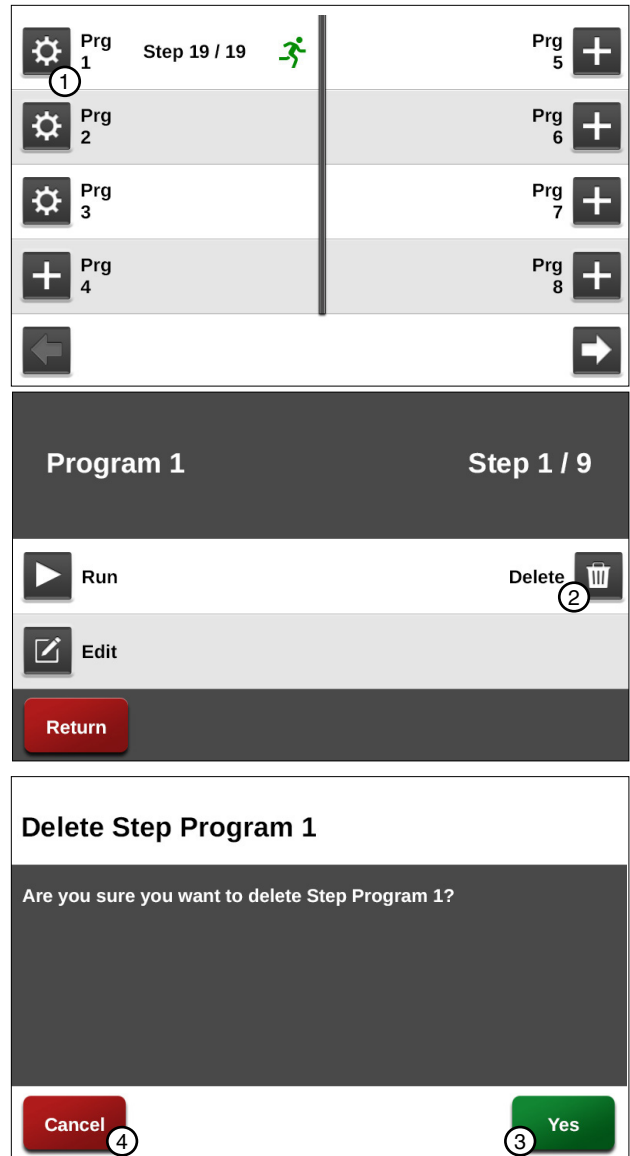

Figure 105-1 1. Settings
2. Push the **Settings** button corresponding to the preferred program number as shown in Figure 105-1.
4. When prompted with the Delete Step Program screen, push **Yes** to finish deleting. Refer to Figure 105-1.